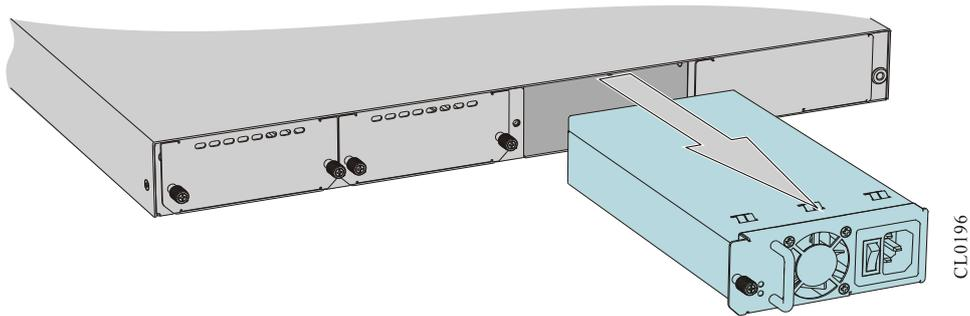

FIGURE 5-2 PULL PUT THE POWER MODULE
- Step 2: Use one hand to hold the handle of the power module and the other hand to hold the bottom of the power module to pull out the power module from the device guide slot slowly, as shown in Figure 5-2: